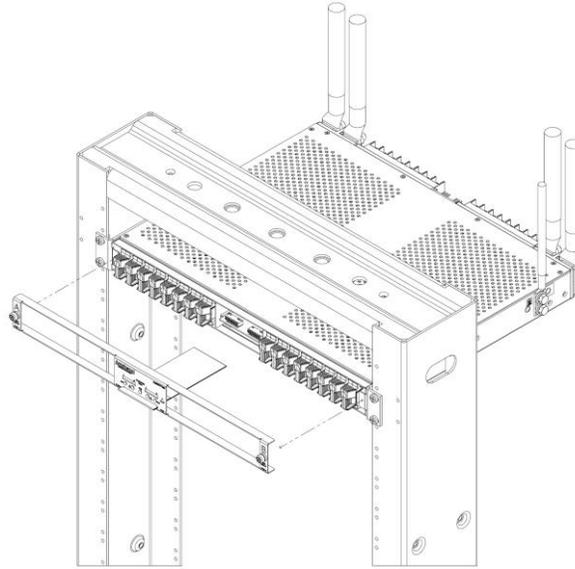

Fig. 2-8: Removing the Front Cover
- Remove front cover by unscrewing thumb screws or using Phillips screwdriver, as shown in Fig. 2-8. Once the front cover has been taken off the panel, remove and discard the small pink packaging foam piece inside the front cover.